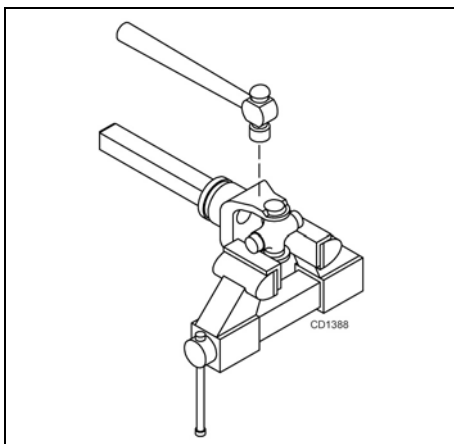

Figure 25
4. Place universal cross in vise as shown in Figure 25 and tap on yoke to remove cup. Repeat Step 3 for final removal. Drive remaining cup out with a drift and hammer.